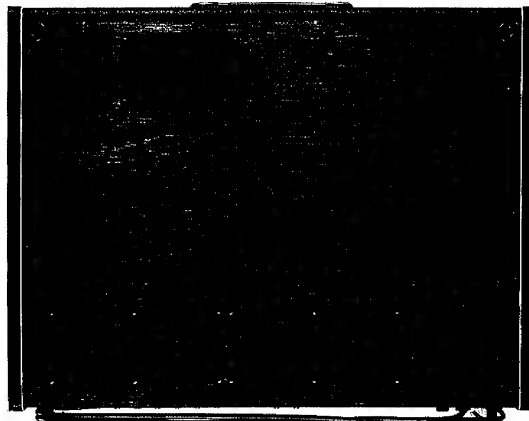

Figure 4 (EM-300B)
6. Replace the 4 phillips head screws, removed in step 1, to secure the module to the mixer. (Refer to Figure 4.)
5. Replace the 4 phillips head screws, removed in step 1, to secure the module to the mixer. (Refer to Figure 4.)